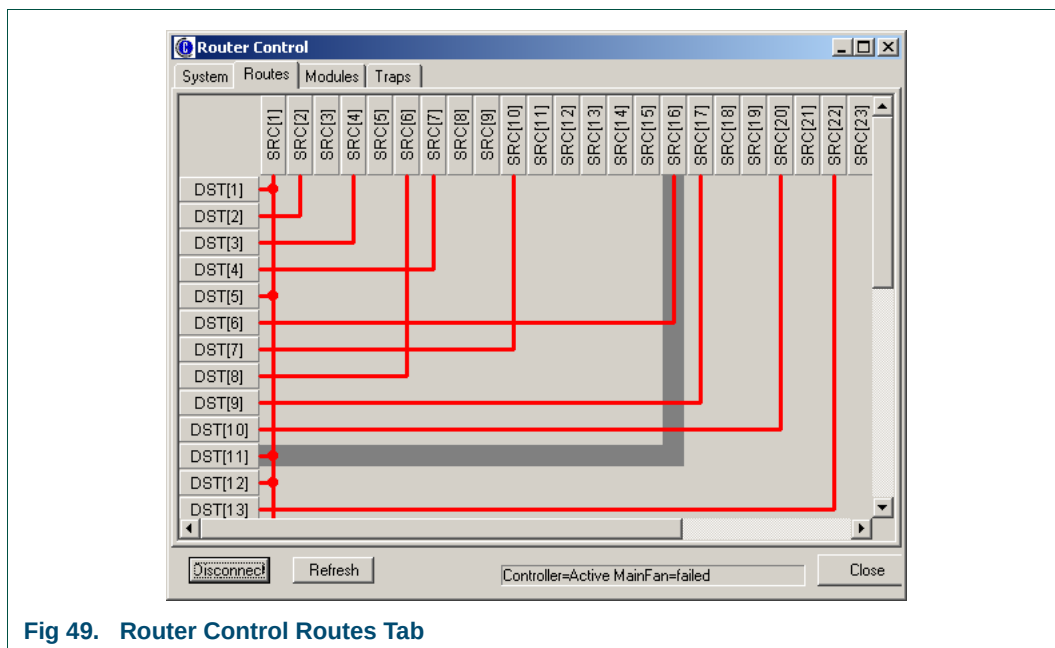

Fig 49. Router Control Routes Tab
4. If the connection is successful, the 'Routes' tab may be selected (Figure 49):